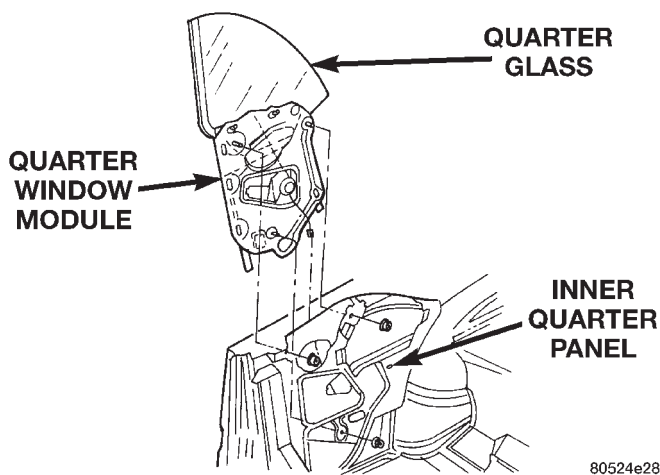
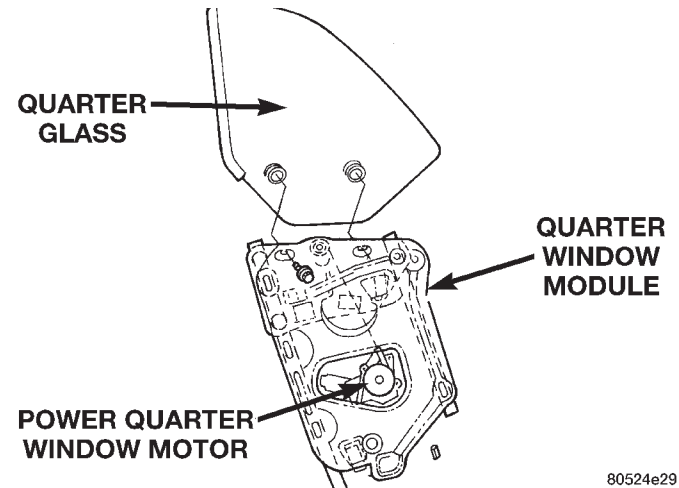

Fig. 65 Quarter Window Module
Fig. 66 Quarter Glass
- (1) Raise quarter glass to full up position, if possible, to aid in removal.
- (2) Remove quarter trim panel.
- (3) Partially lower convertible top.
- (4) Disconnect wire connector to power window motor.
- (5) Remove fasteners holding quarter window module to inner quarter panel (Fig. 65).
- (6) Lift quarter window module upward and out opening at top of quarter panel.
- (7) Separate quarter glass from quarter window module (Fig. 66).